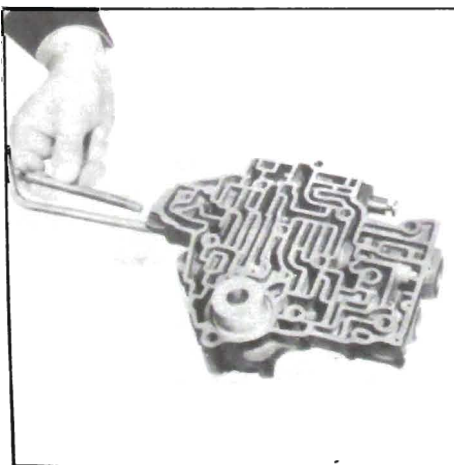

Figure 76-515
3. Remove governor pipes from valve body assembly. See Figure 76-515.